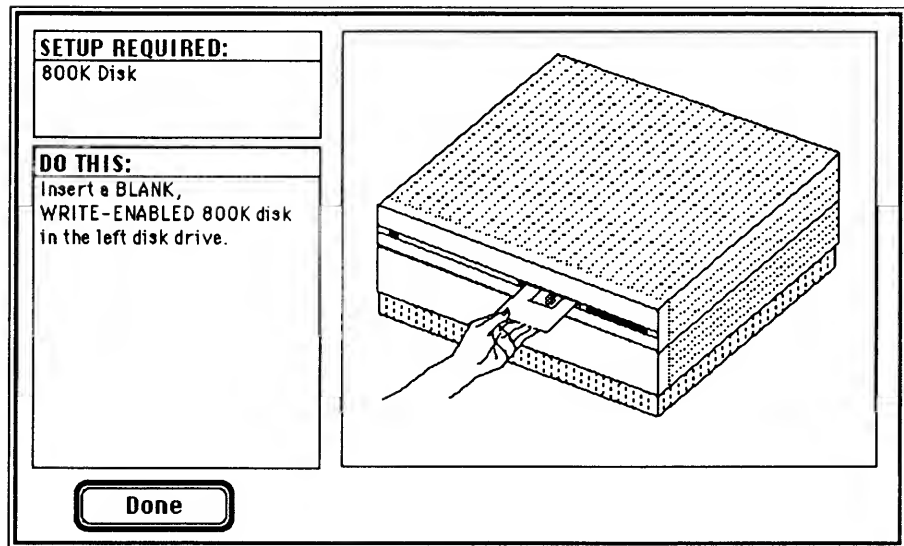

Figure 3-10
5. *AppleCAT II/IIx* will also ask you to perform setup steps. When the **Setup Required** window (Figure 3-10) appears, insert the requested disk. *AppleCAT II/IIx* will specify which drive to use. After inserting the disk, click **Done** to continue the test. *AppleCAT II/IIx* will request the following disks: